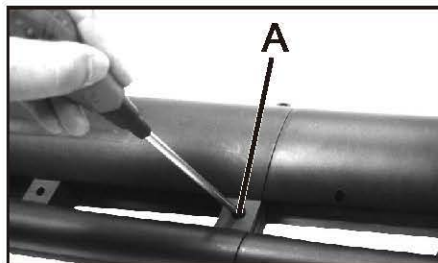

Fig. 2
- Fasten bolt and nut to place A where the suction/ blowing pipe cannot reach. The M6x35 bolt and nut are enclosed in the accessories (Fig. 2).
- **Vacuum Mode:** Rotate the mode selection knob (10) so that the arrow of the knob points to the "vacuuming" icon (Fig.2). Ensure that when the knob is rotated it clicks into place.